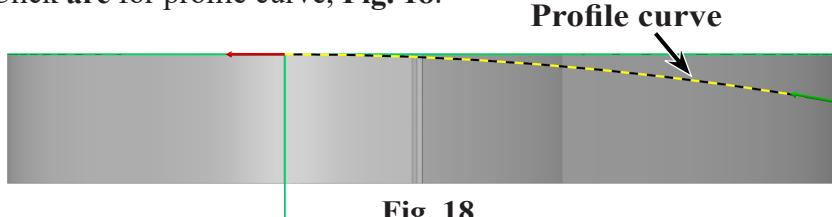

Fig. 18
Step 3. Click arc for profile curve, Fig. 18.